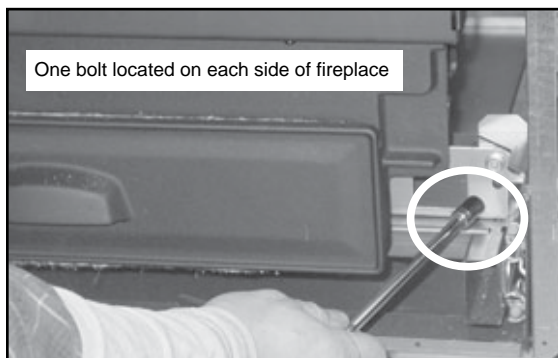

Figure 15.2
3. Remove both bolts located on each lower side of the fireplace with a Phillips head screwdriver or socket wrench. **Figure 15.2.**